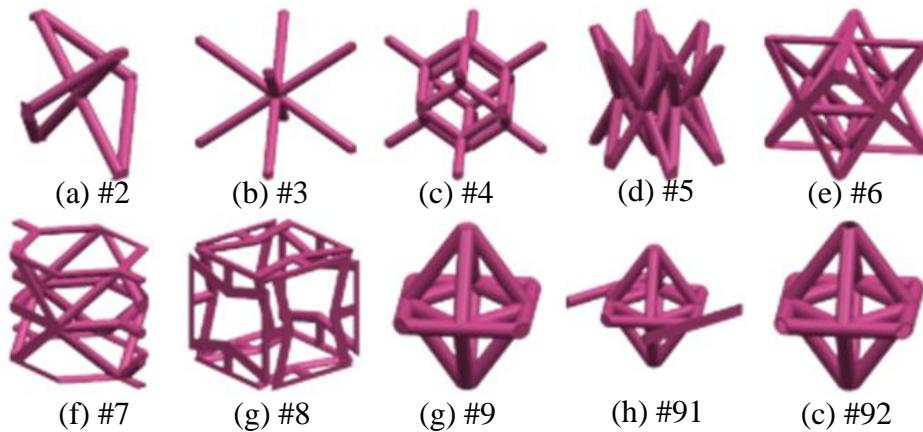

Figure 1: Lattice structures collection [FRE17] [LEH18].
This deliverable provides code to generate volume elements of the lattice structures illustrated in Figure 1. Two options exist
1. Choose geometry by choosing number (2,3,4,5,6,7,8,9,91 or 92), see Figure 1.
- cellType = "3": cell type from "2", "3", "4", "5", "6", "7", "8", "9", "91" (or "92" if typeRand = "b"), see Figure 1.